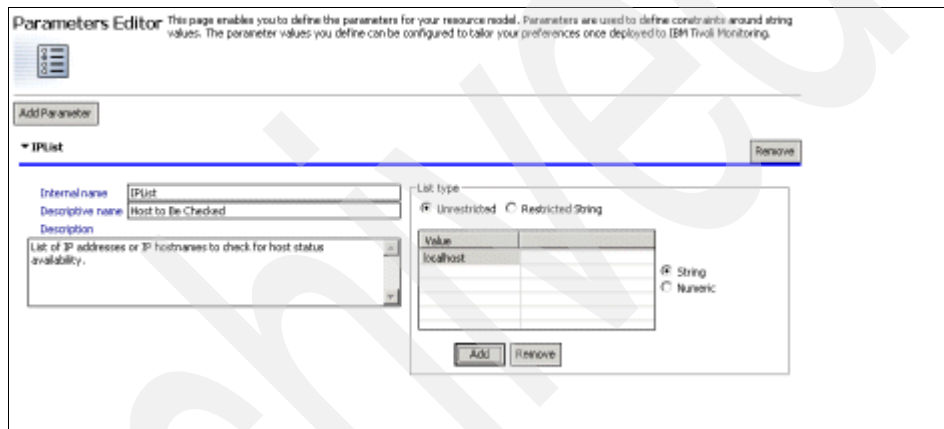

Figure 9-57 New parameter value added
32. Select **OK**. You are returned to the main window with the Parameters pane, which is updated with the new parameter value as shown in Figure 9-57.